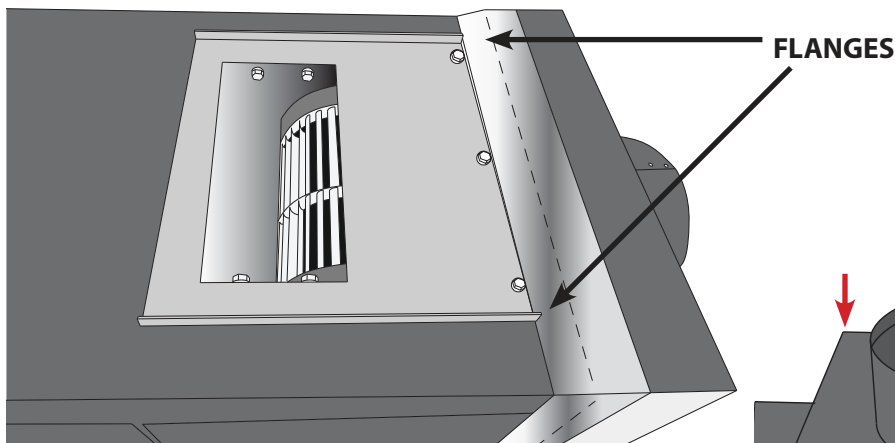

Fig. 1 - flange detail
3. Place bottle probe securely into bottle as seen in Figure 1.
6. To ensure a consistent temperature, place bottle probe approximately three (3) feet away from the air output and not in the flow of the air.